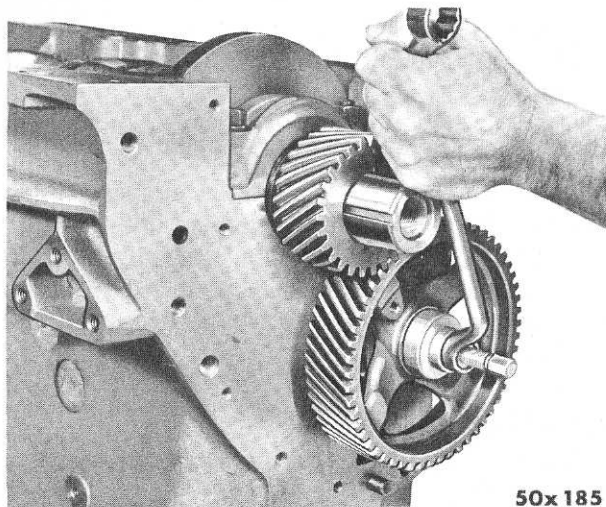

Fig. 18—Installing Camshaft Timing Gear
- (1) Place the thrust plate over the end of the camshaft.
- (2) Install the timing sprocket on the shaft (except on B-4-R, B-4-T, B-4-V and B-4-Y). Install the timing gear on the shaft (on B-4-R, B-4-T, B-4-V and B-4-Y), using Tool DD-1064 (Fig. 18).